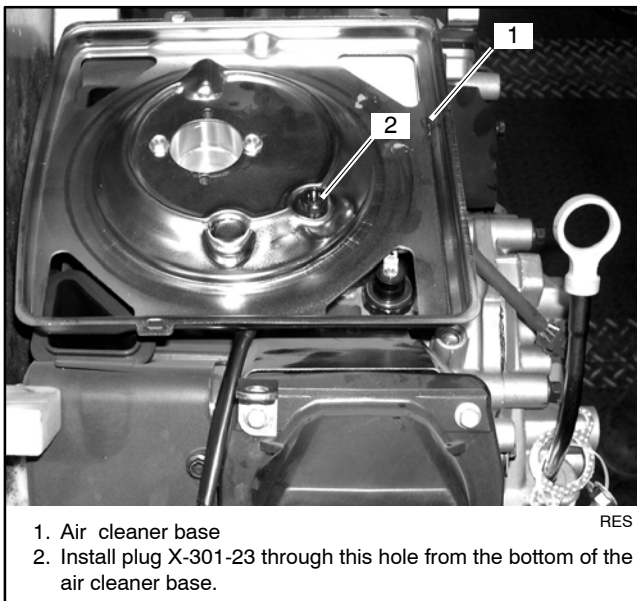

Figure 14 Air Cleaner Base with Plug
- 6.1 Plug the breather access hole in the air cleaner base plate with plug X-301-23. Insert the plug from the bottom of the base plate. See Figure 14.